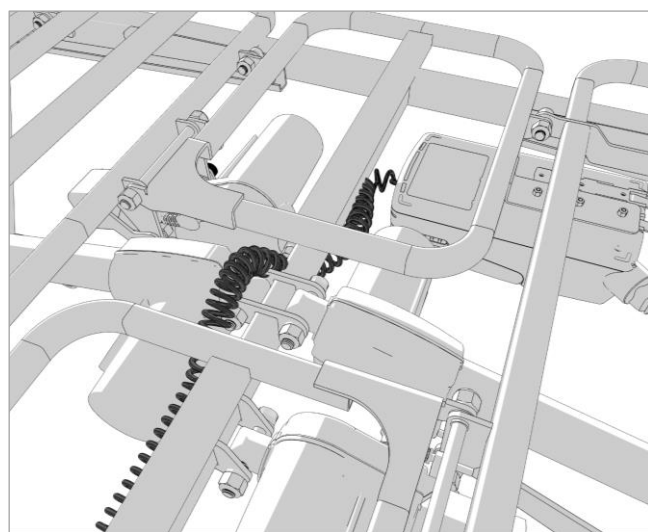
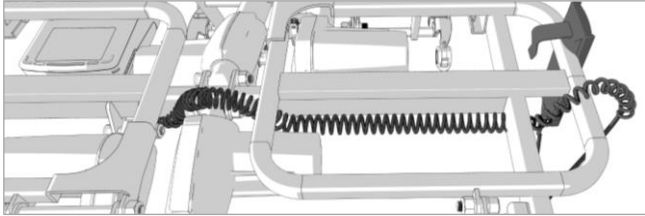

Figure 8.18
Figure 8.19
1. For routing on the Right hand side of the bed, the cable should be routed up and over the main lift actuator mounting point. As shown in Figure 8.18 and Figure 8.19.